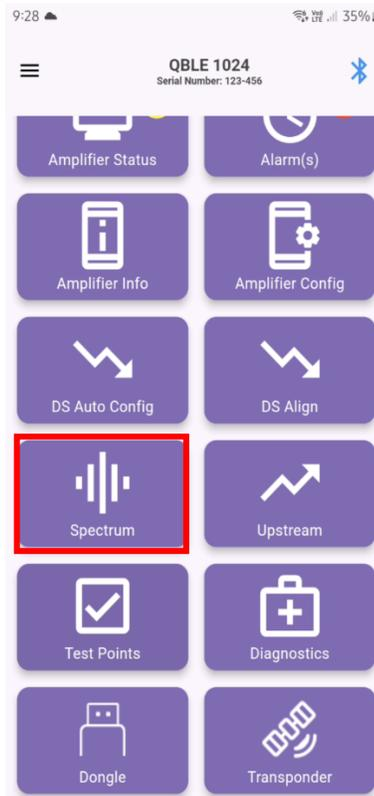

Figure A- 13: Spectrum Tile
10. Select Spectrum Tile Figure A-13.